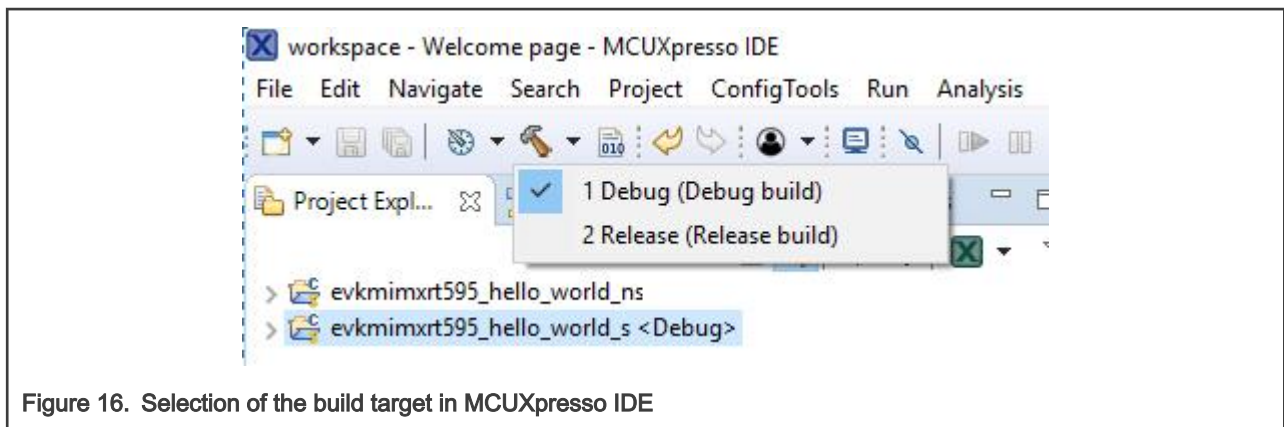

Figure 16. Selection of the build target in MCUXpresso IDE
- Now, two projects should be imported into the workspace. To start building the TrustZone application, highlight the `evkmimxrt595_hello_world_s` project (TrustZone master project) in the Project Explorer. Then, choose the appropriate build target, **Debug** or **Release**, by clicking the downward facing arrow next to the hammer icon, as shown in Figure 16. For this example, select the **Debug** target.